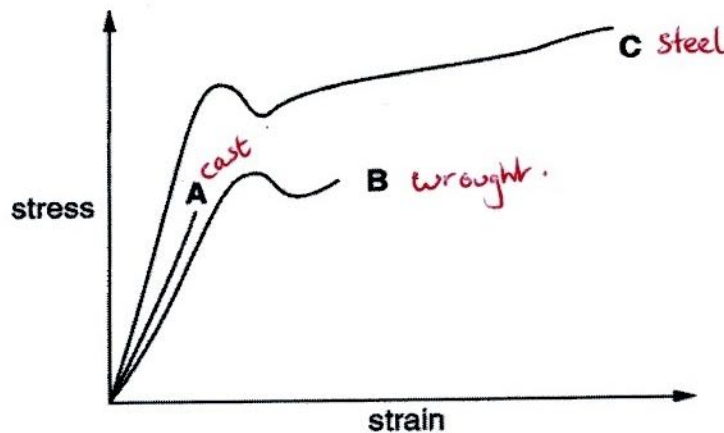

Fig. 10.1
- (c) Fig. 10.1 shows how stress varies with strain for the three materials, cast iron, wrought iron and steel.